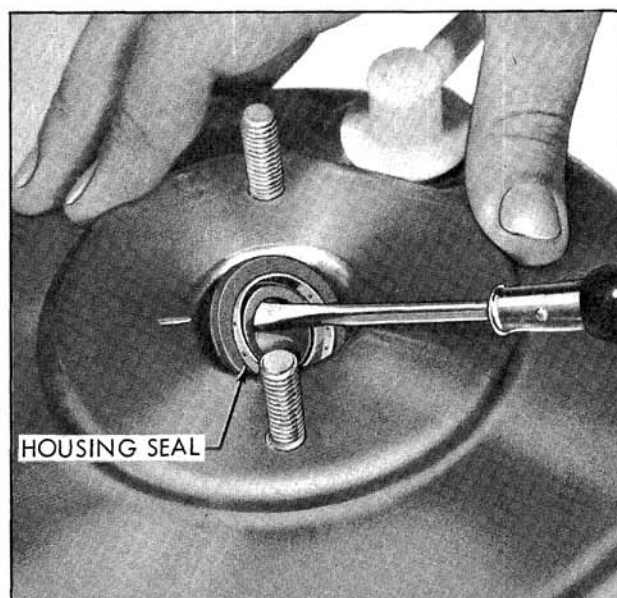

Fig. 11-59 Removing Seal
11. Remove the front housing seal. (Fig. 11-59)